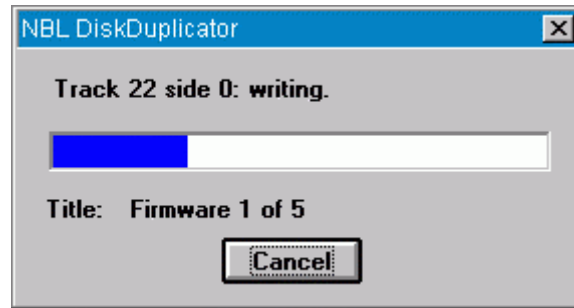

Figure 7
6. Insert the floppy diskette labeled "EMC Firmware 1 of 5" into the disk drive and click on "OK". The text box shown in **Figure 7** will be displayed as the tracks are recorder onto the diskette.